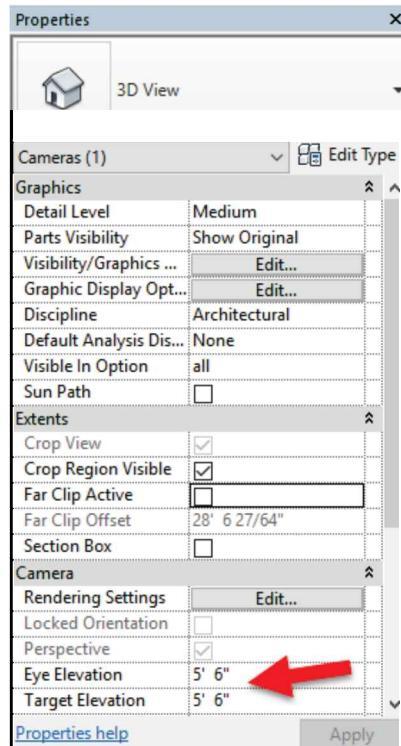

FIGURE 14-4.5 Camera properties
9. Make sure the **Eye Elevation** is **5'-6"** (Figure 14-4.5).